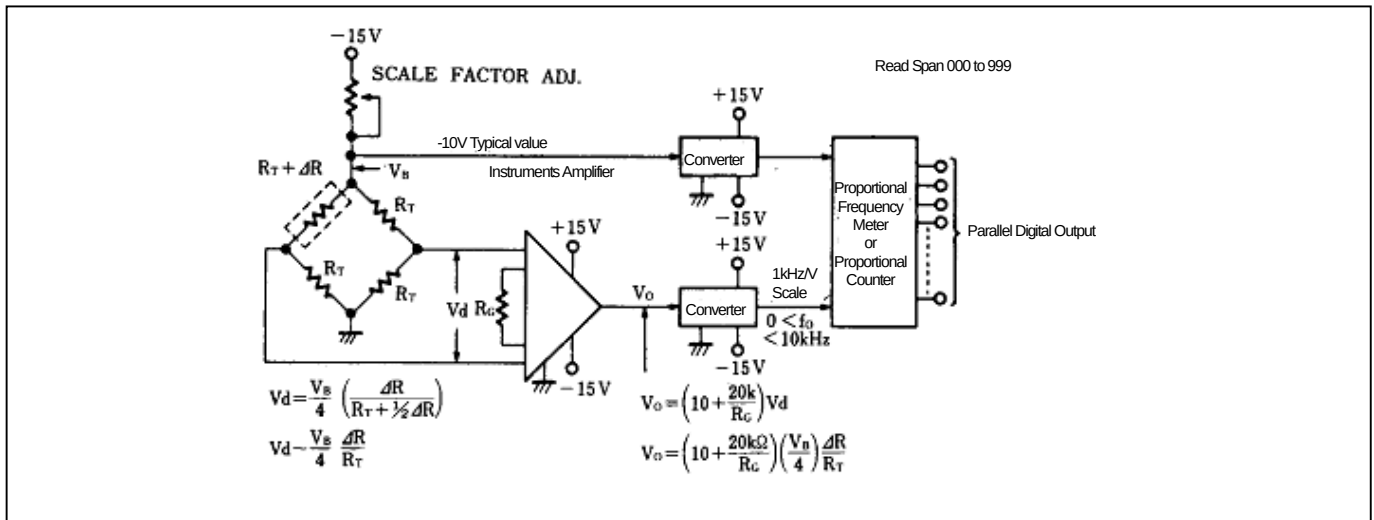

Figure 12. Proportional meter system
The accuracy of the systems is better on used proportional method, for measurement equipment. Use the NJM4151, Figure 12 shows the proportion by weight measurement system. First, the strain gauge bridge circuit, and the cells of weight detecting detect the weight. Then generates a difference voltage. The Difference voltage (VD) for the converting bridge approximated $VB\Delta R / RT$ in a small range of resistance changes of strain - gauge. Necessary information is $\Delta R / RT$ and the voltage (VB) across the bridge must be stable. Instrumentation - amplifier amplify the low input differential voltage (VD). It is used to eliminate the common mode input voltage. The voltage across the bridge (VB) converted to frequency (fB). Then, the output voltage amplitude (VO) converted to frequency (f0). Hereby, ADC is designed for proportional meter. The voltage across the bridge converter is 1Hz / V. Amplifier voltage converter is 1kHz / V conversion factor. Proportional counter and frequency meter type of proportional will be used to convert frequency ratio $f0/fB$. The first advantage of conversion technology by the proportional method is that it is independent of the voltage across the bridge. Frequency (fB) is proportional to the bridge voltage (VB). Output frequency (f0) is proportional to the VB. $f0/fB$ is independent of VB, only proportional to $\Delta R / RT$.